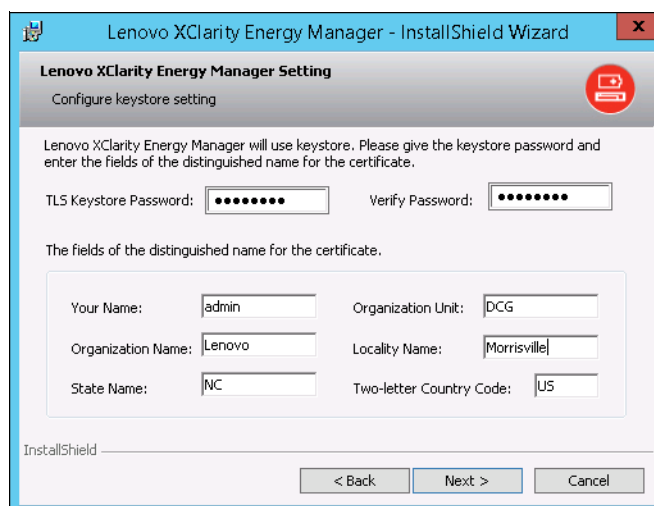

Figure 7-31 Keystore access
10. Energy Manager uses a Java keystore (JKS) to manage security certificates. Set the JKS username and password as shown in Figure 7-31. Click **Next**.